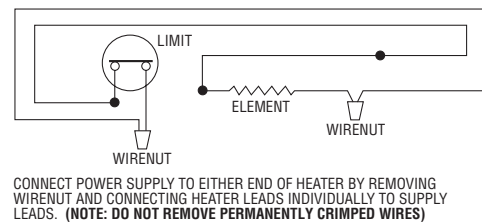

Figure 6. Heater Wiring Connections
- Connect supply wiring to heater as described in Figure 6, or as shown in the wiring diagrams supplied with the accessory kits intended for use with this heater.